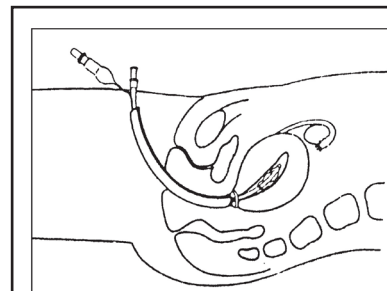

Figure 1—Normal or anteфлекed uterus. Initial insertion, balloon deflated.
7. Insert the lubricated instrument, with the balloon deflated, into the cervix in the direction of the curve of the uterine cavity. (See Figures 1 & 2)